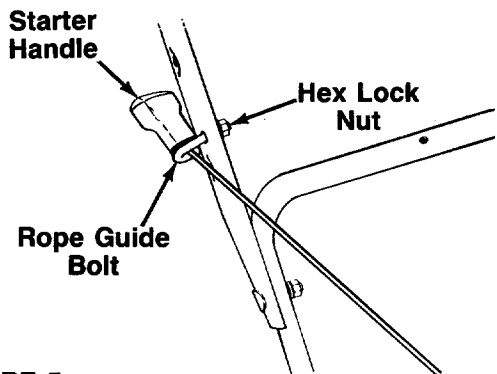

FIGURE 5.
3. Place the rope guide around the starter handle, so the rope guide bends downward as shown in figure 5. Insert the rope guide into the handle, and secure with hex lock nut.